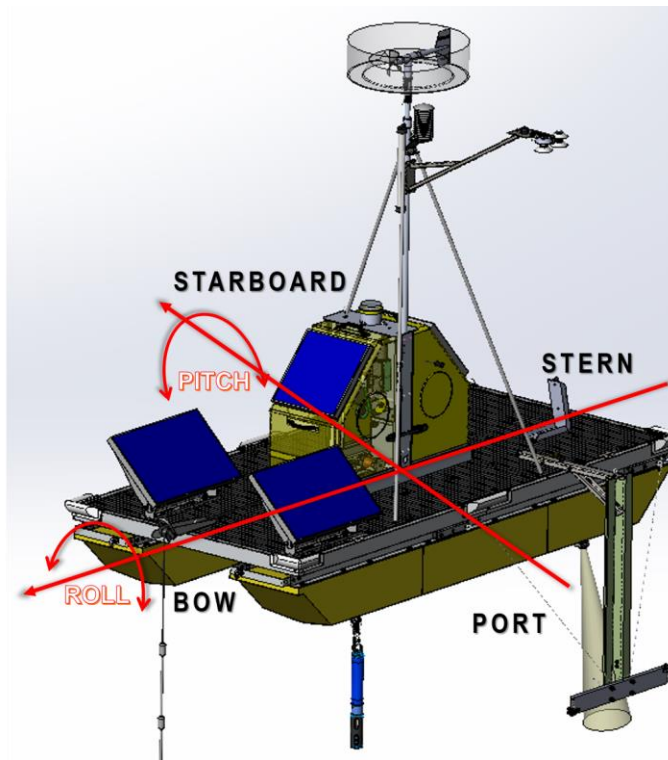

Figure 42. AIS Lake Buoy Pitch and Roll Diagram
- i. Take a digital level and measure the PITCH by placing it on the top of the floating deck along the centerline (at the bow, to measure from bow to stern). Positive PITCH is bow above stern. Capture this measurement in the boat next to the AIS Lake Buoy (your movement can influence the measurement). See Figure 42 for reference.
- ii. Take a digital compass and measure the ROLL from port to starboard. Positive ROLL is port above starboard. See Figure 42 for reference.